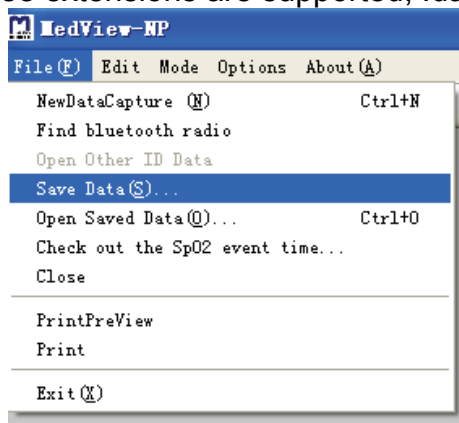

Figure 8-5
By choosing the “Save data (S)” menu as shown in Figure 8-5 you can save the current patient’s data information to data document. Three extensions are supported, .dat. .txt. and .xls.